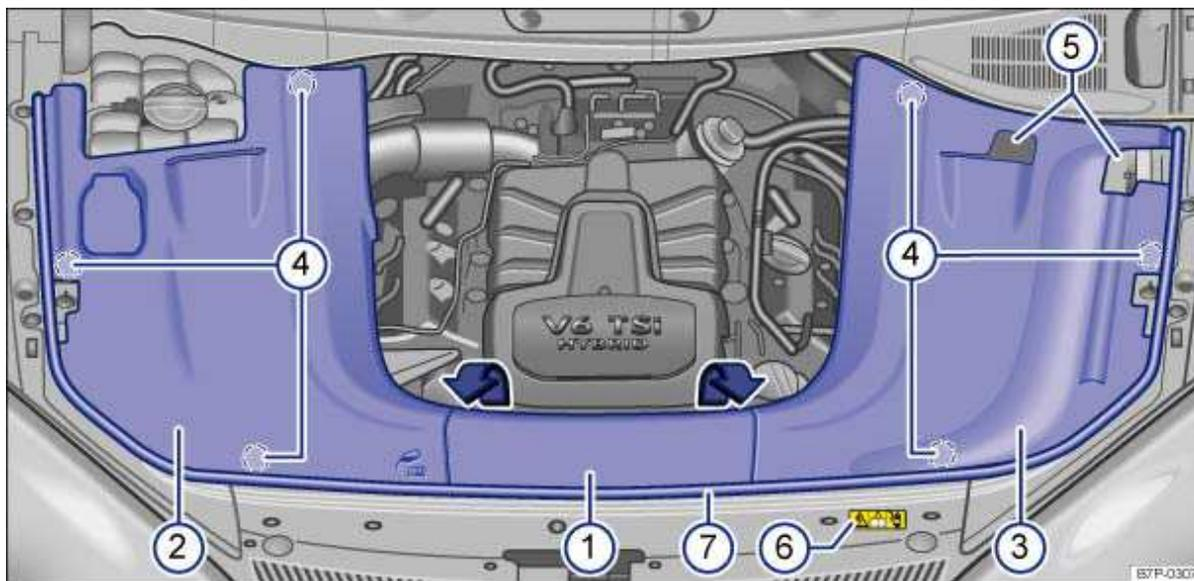

Fig. 259 Engine hood open: Engine compartment cover.
If the 12 Volt electrical system is not working because the 12 Volt vehicle battery is dead, the hybrid vehicle can be started with the high-voltage hybrid battery if its charge is adequate. For this purpose, the vehicle has jump start terminals in the engine compartment. You must open the opening for jump starting. ⇒ fig. 259 (5) in the cover ⇒ fig. 259 (3) to get to the jump-start terminals in the engine compartment .
Explanation of fig. 259: